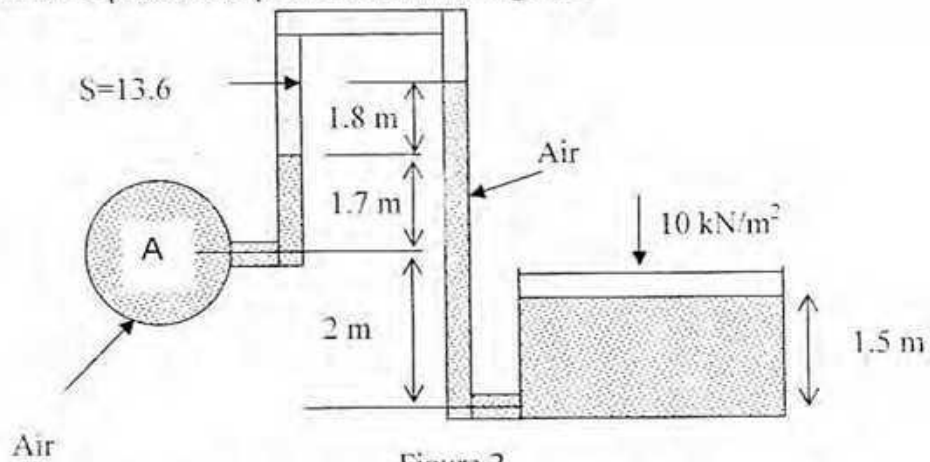

Figure 2
d. Determine the pressure at point A shown in Figure 2